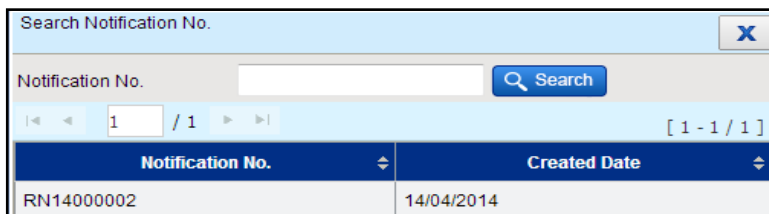

Figure 3.1.3-3 Search Notification No
- System will display the Search Notification No. window as shown in Figure 3.1.3-3
- The Search Notification No. field allows the user to enter partial or full criteria for **Notification No.** and click on the  button. Double-click to select a Notification No. and the details of the item(s) will be displayed as shown in Figure 3.1.3-3.